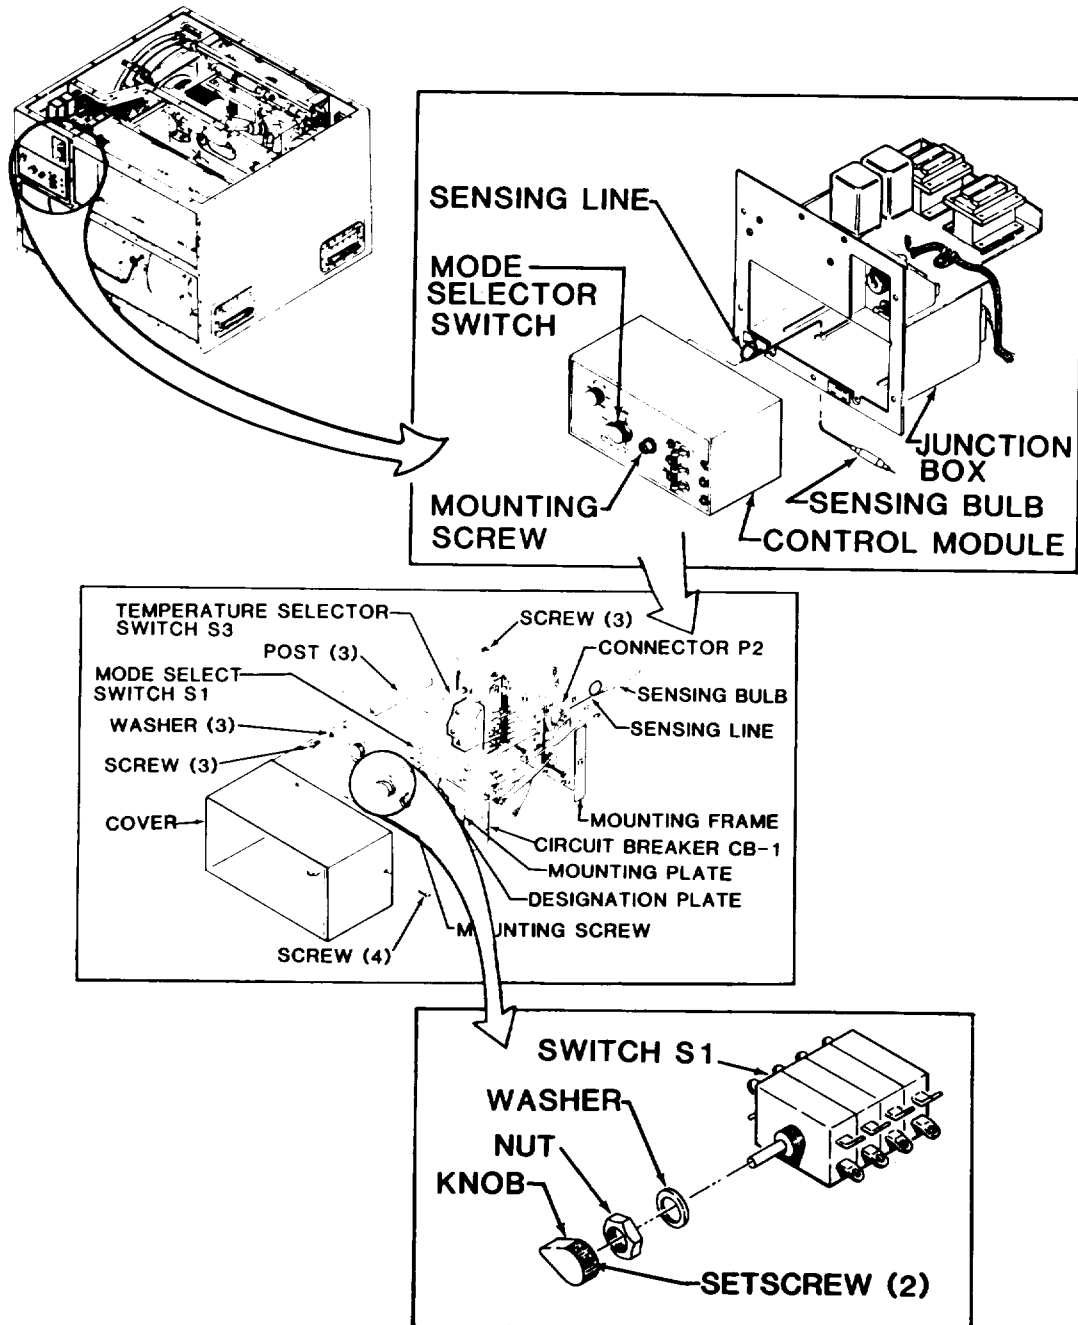

Figure 4-19. MODE SELECTOR Switch S1
The MODE SELECTOR switch S1 is the rotary type switch located in the control module. (See fig. 4-19.)
(1) Disconnect power at power source.
(2) See paragraph 4-21a and remove control module.
(3) See figure 4-19 and remove four screws and pull cover off.
(4) Loosen setscrew in the TEMPERATURE SELECTOR knob. Remove knob.
(5) Remove the three screws from the posts and slip mounting frame off.
(6) Tag and disconnect wires from MODE SELECTOR switch.
(7) Loosen two setscrews and pull knob from MODE SELECTOR switch.
d. Installation. (See fig. 4-19.)
(1) Slip MODE SELECTOR switch shaft through panel hole and secure with mounting nut and washer supplied with switch.
(2) Place knob on MODE SELECTOR switch shaft and tighten setscrews.